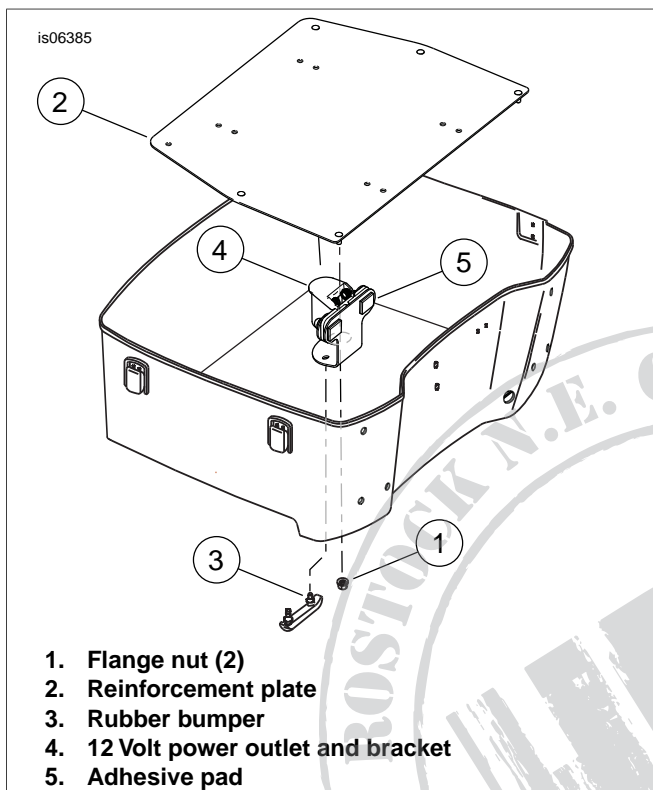
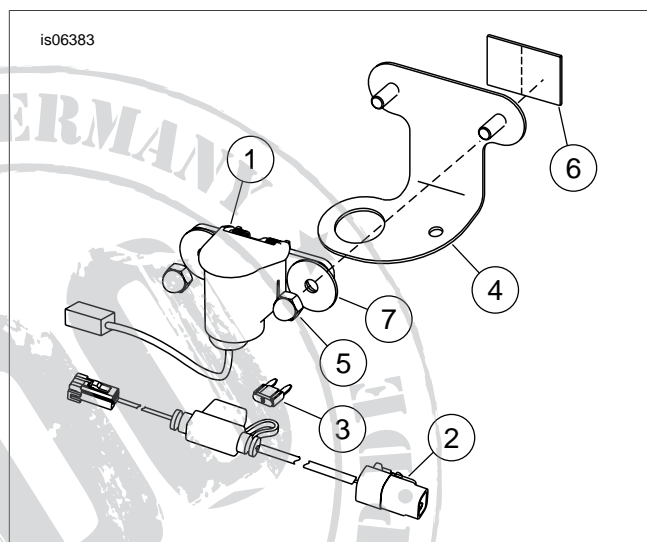

Figure 2. Installation without Speaker Pod
Figure 3. Service Parts: 12 Volt Power Outlet
See Figure 3 and Table 1.
1. See Figure 3. Install 12 V outlet (1) onto the outlet bracket (4) and secure with acorn nuts (5) and washers (7). Tighten acorn nuts to 25-35 **in-lbs** (2.8-4.0 Nm).
3. See Figure 2. Remove two nuts (1) from under the Tour-Pak. Save for later installation.
5. See Figure 3. Install the adhesive pad (6) to the outlet bracket (4).
- a. Cut the adhesive pad (6) in half.
- d. See Figure 2. Install the pad (5) to the back of the outlet bracket over the stud location.
6. See Figure 2. Lift reinforcing plate (2) and install the outlet bracket (4) over the large boss under the front right corner of the plate. The large hole in the bracket will locate over
- See Figure 3. Connect the two-way connector of the Tour-Pak harness (2) to the outlet.